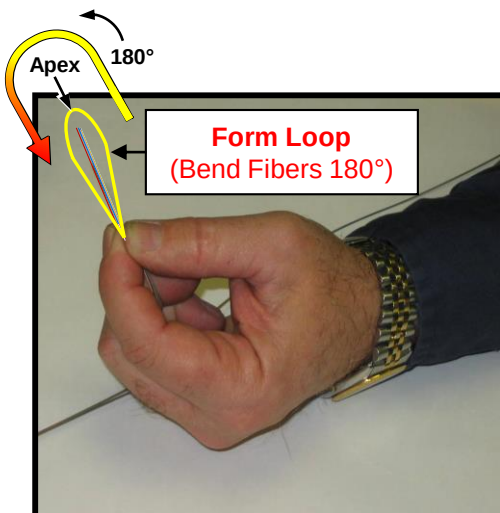

Figure 8
4. Release Fibers. Ripcord will Retain the Bend, (Repeat as necessary) **See Fig. 8**